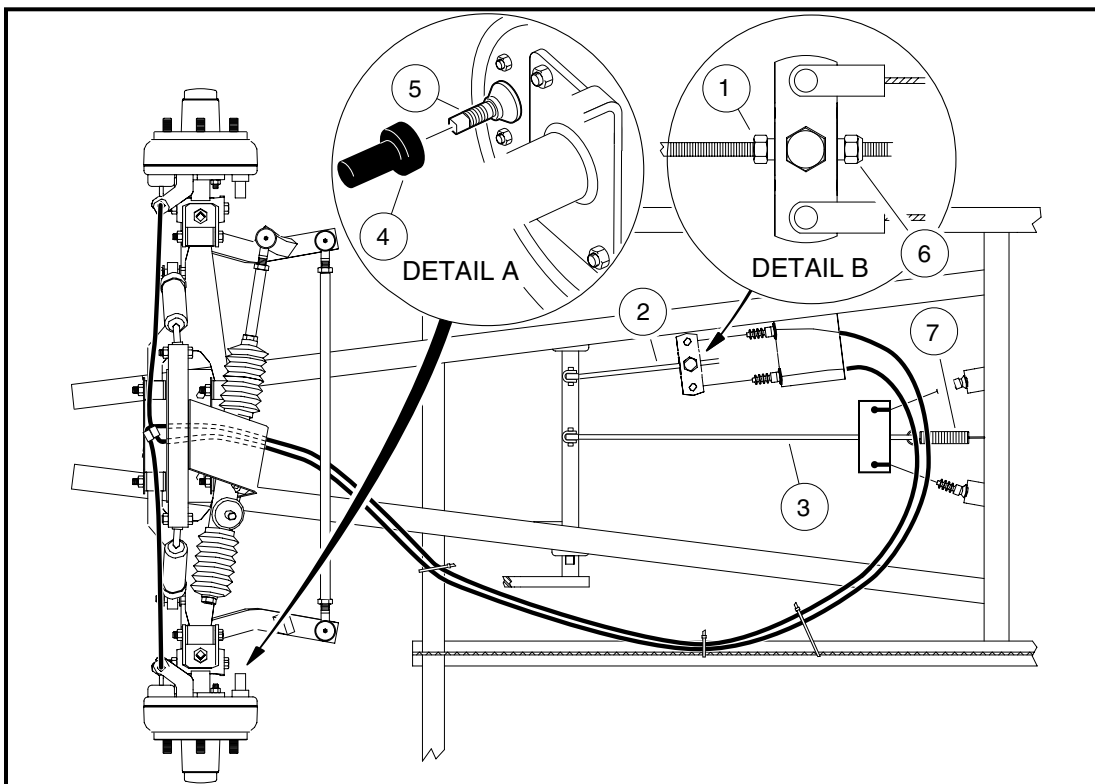

Figure 6-28 Front Brake Cable Routing
3. Loosen the jam nuts (1) and nylon locknuts (6) on the brake equalizer rods (2 and 3) to provide slack in the brake cables and equalizer assemblies (**Figure 6-28, Page 6-16, Detail B**).
4. Remove rubber dust cover (4) to uncover brake adjustment bolt (5) on the left rear brake cluster assembly (**Figure 6-28, Page 6-16, Detail A**).
10. Hold the nylon locknut (6) on the rear brake cable equalizer rod (3) with a wrench and tighten the jam nut until it is secured against the equalizer (**Figure 6-28, Page 6-16, Detail B**).
3. Remove rubber dust cover (4) to uncover brake adjustment bolt (5) on front left brake cluster (**Figure 6-28, Page 6-16, Detail A**).
8. Turn the nylon locknut (6) clockwise on the front equalizer rod to tighten the brake cables until there is no brake pedal free play (**Figure 6-28, Page 6-16, Detail B**).
9. After all free play has been removed from the brake cables, turn the nylon locknut (6) counterclockwise to loosen the brake cables until there is the same amount of brake pedal free play as measured in step 9, **Rear Brake Cable Adjustment**.
10. Hold the nylon locknut (6) on the front equalizer rod (2) in place with a wrench and tighten the jam nut (1) until it is secured against the equalizer (**Figure 6-28, Page 6-16, Detail B**).
2. Release park brake and loosen equalizer retaining nuts (1 and 6) on equalizer rod (3) to slightly loosen brake cable (**Figure 6-28, Page 6-16, Detail B**).
3. Loosen the equalizer retaining nuts (1 and 6) on the front equalizer rod (2) to slightly loosen the brake cable (**Figure 6-28, Page 6-16, Detail B**).
- Route cable towards the rear of vehicle and over to the driver's side I-beam and secure with wire ties so that the brake cable does not touch the brake equalizer (**Figure 6-28, Page 6-16**).
- For Turf 2, Carryall 2 and Carryall 2 Plus vehicles, the cable should pass over the inside I-beam (**Figure 6-28, Page 6-16**).
- Route cable along I-beam towards front of the vehicle and secure as shown (**Figure 6-28, Page 6-16**).